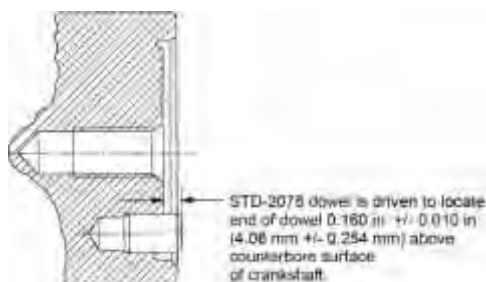

Figure 29
- Make sure that the end of the dowel is 0.160 in. $\pm$ 0.010 in. (4.06 mm $\pm$ 0.254 mm) above the counterbore surface of the crankshaft as shown in Figure 29.